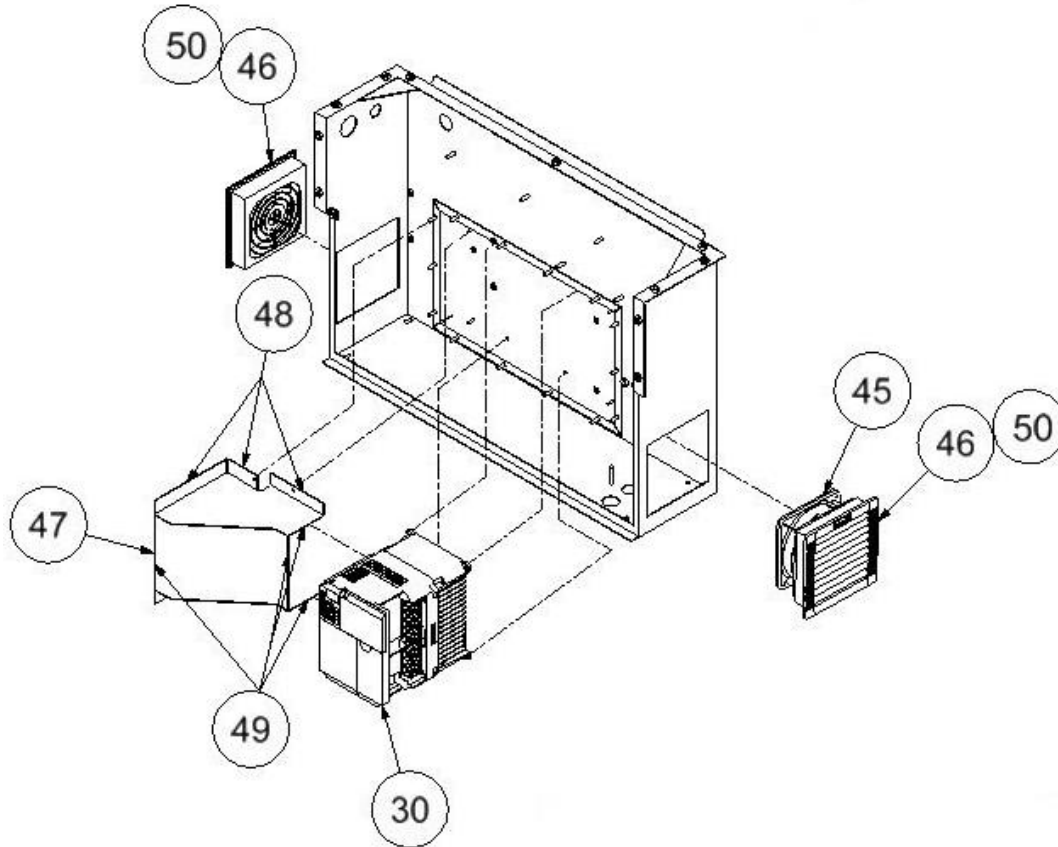

Figure 9-6 Electrical Box Cooling Hardware
2. Remove VFD exhaust air duct (47) in Figure 9-6.
3. Inspect external cooling fan/filter assembly (46) in Figure 9-6.